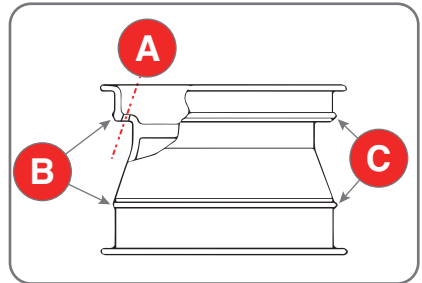

Fig. 6.4
High performance wheels (asymmetric curvature) - (Fig.6.4.) Some European wheels have rims with a very pronounced curvature (C), except in the area of the valve hole (A) where the curvature is less pronounced (B). On these wheels the bead must first be broken in the area of the valve hole, on both the top and bottom sides.